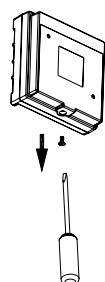

Fig. 9
1. Undo and remove the fixing screw from the bottom edge of the Keypad and remove the wall mounting bracket.(Fig.9)